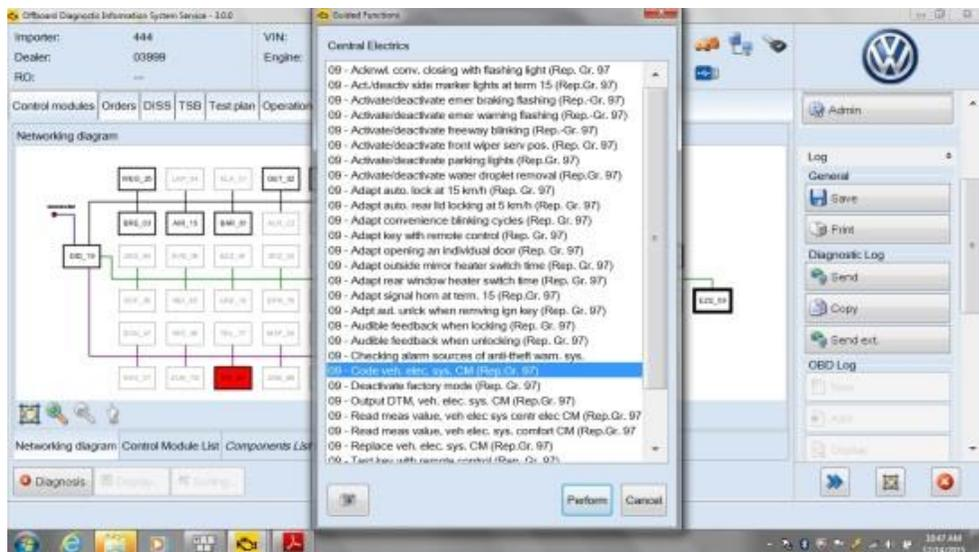

Figure 2
- Select from table (09 – Code veh. Elec. Sys. CM (Rep.Gr. 97) and depress perform. (Figure 2)